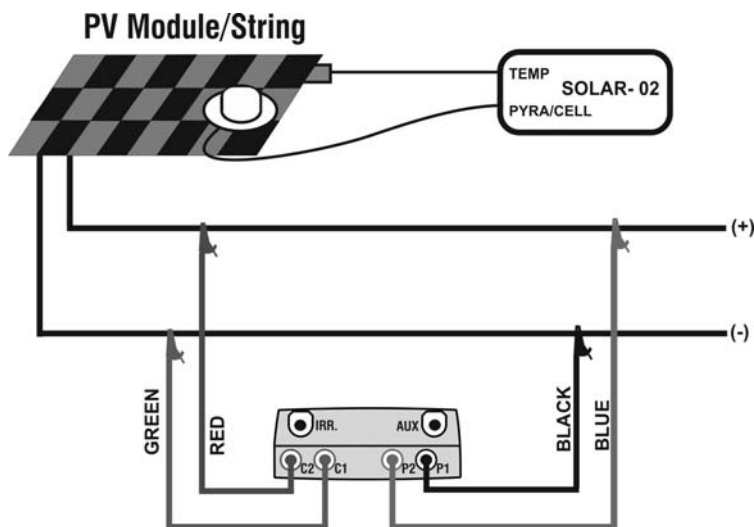

Fig. 9: Connection of units to the PV module/string
20. Connect the meter to the module/string under test as shown in Fig.9. In particular, connect the negative output pole of module/string to P1, C1 input terminals and the positive output pole of module/string to P2, C2 input terminals